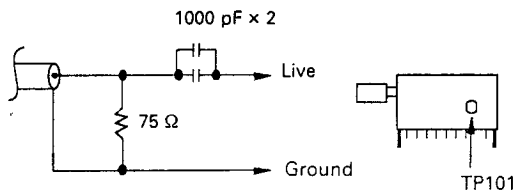

Fig. 1
1. Apply a carrier frequency of 38.9 MHz to pin ⑤ of IC 201. Connect pin ⑥ of IC 201 to ground. (Use a probe as shown in fig. 1).
1. Apply a carrier frequency of 6 MHz to pin ⑱ of IC 201. (Use a probe as shown in fig. 1).
3. Using a DC voltmeter on the 10 V full-scale range, measure voltage at pin ⑩ of IC 201, should read 4.5 V DC approx.
1. Connect a sweep generator to Tuner TP 101. (Use a probe as shown in fig. 1).